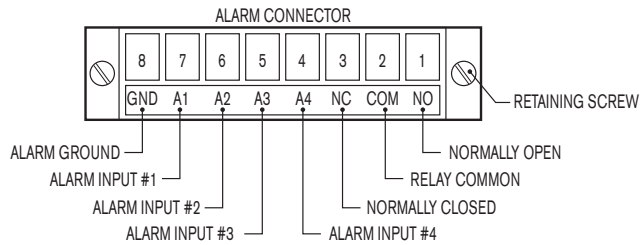

Figure 2
- 4.5.4. If the Alarm inputs or relay outputs are being used, connect the appropriate stripped wires to the 8-pin Alarm connector per FIGURE 2.